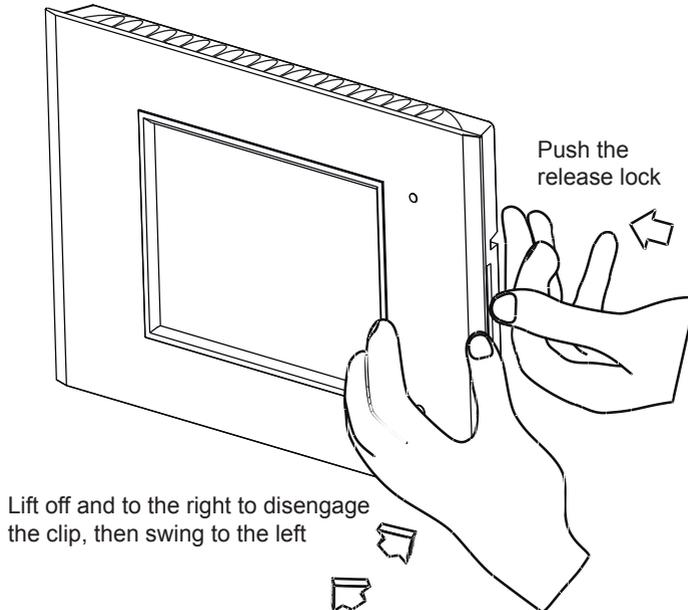

Figure 13. Removing the fascia.
3. Swing the fascia off towards the left. Refer to Figure 13.